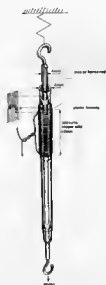

Figure 2. The coil for the prototype used is a ballpoint pen plastic housing as the coil former with a 4 mm iron rod inserted into it.
- Up to three EPROM plug-in boards (figures 2 and B) can be inserted in the basic extension board.
When screwing the 'sandwich' together some of the plastic surrounds of the connectors (at each end), may get in the way of the spacers. This problem can be solved very easily by sewing off a small piece of the connector (see figure 2).
The circuit just described is suitable for any type of coil. However, tests with the prototype have shown that a coil identical to the one shown in figure 2, produced the best results. Therefore, for simplicity's sake we have based all our calculations and calibration procedures on this type.
decoding consists only of two inverters, N5 and N6, with which the complete memory range is divided into three blocks (IC2, IC3 and IC4). Finally, the supply voltage for the complete darkroom computer is produced by the two voltage stabilisers IC8 and IC9. The readout consists of the four displays in figure 2, which are multiplied by PA0...PA3 via the BCD-to-decimal decoder IC2. The displays are multiplexed and the data inputs to them are T0...T3. The hexadecimal code on these lines is converted into the seven segment code by IC1. Each display is activated for about 25 ms. The capacitive keyboard is in the form of a printed circuit board. It consists of 20 keys, arranged in 5 rows of 4 keys and each key pad only needs to be touched with a finger tip to operate.
All the columns are pulled low in turn by IC2. The capacitance of the key pad will transfer the pulse to the 4 monostable multivibrators (MMV's) consisting of gates N1...N8. If no key is touched, a logic 1 will appear on each of the PA4...PA7 lines, via the transistor stages T2...T5. However, when a key pad is touched, the scan pulse will be diverted to earth. The MMV associated with the row will not receive a scan pulse and the microprocessor then knows which key has been touched. A complete keyboard scan takes about 10 ms. The footswitch S1 is shown in figure 2. This switch is connected in parallel to the START/ST. key and allows the timer to control exposure time while leaving the hands free. It may be useful to have the safe light
operate in conjunction with the enlarger lamp. This facility is provided by the relay RE1 shown in figure 2. Transistor T1 will switch the relay on when a logic 0 appears on the PB5 line. When this line goes to logic 1, the relay will switch the safe light off and the enlarger on. The enlarger can also be controlled manually by means of switch S2 in order to refocus or change the enlargement size.